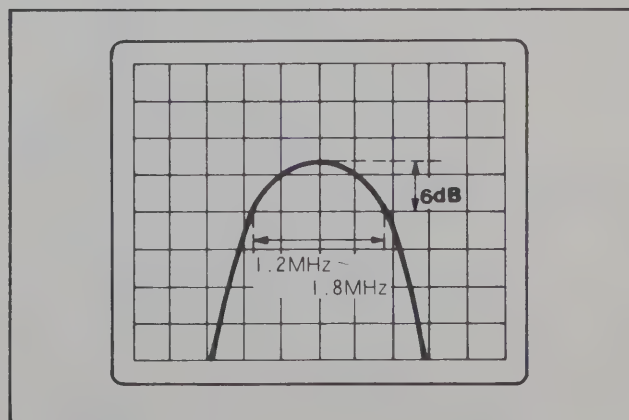

Figure 4.5 IF Bandwidth Accuracy Test Display
- Adjust the Signal Generator output level so that the signal peak on the CRT display comes to 6 dB above the horizontal center (Figure 4.5).